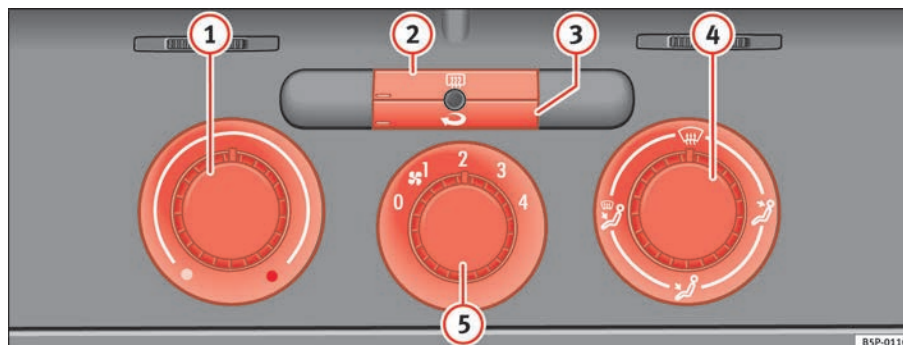

Fig. 128 On the dash panel: Heater controls
- Using the controls ⇒ fig. 128 ① and ④ and the control ⑤ you can set the temperature, air distribution and the turbine speed.
- To switch a function on or off, press the appropriate button ② or ③. When the function is activated, the display window in the lower left of the button is lit.